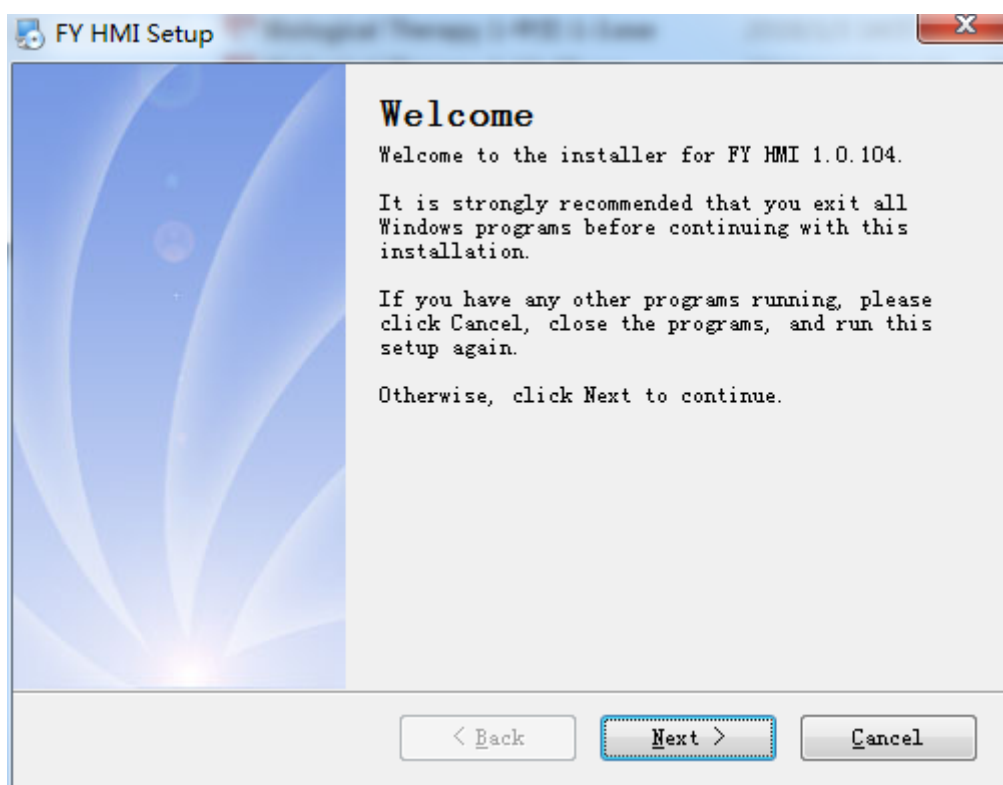

Figure 1-1
2. start installation. Unzip the downloaded zip file to get FY HMI.exe, double-click FY HMI.exe to start installing the software. The welcome screen is shown in Figure 1-1: